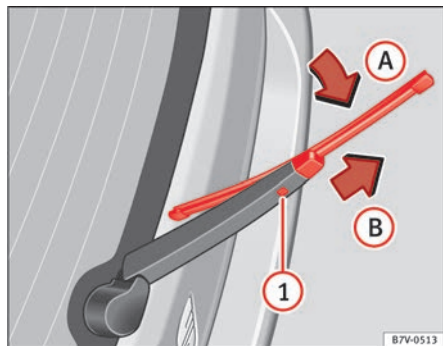

Fig. 159 Changing the rear wiper blade.
- Pull the wiper blade out of its mounting on the wiper arm ⇒ fig. 159 (arrow ①).
- Hold down the release button ① while gently pulling the blade in the direction of the arrow ②. This may require some strength. ▶
- Insert a new blade of the **same length and type** in the wiper arm in the opposite direction to the arrow (B) and hook into place. This feature is operational when the knob is in position (arrow (A)).